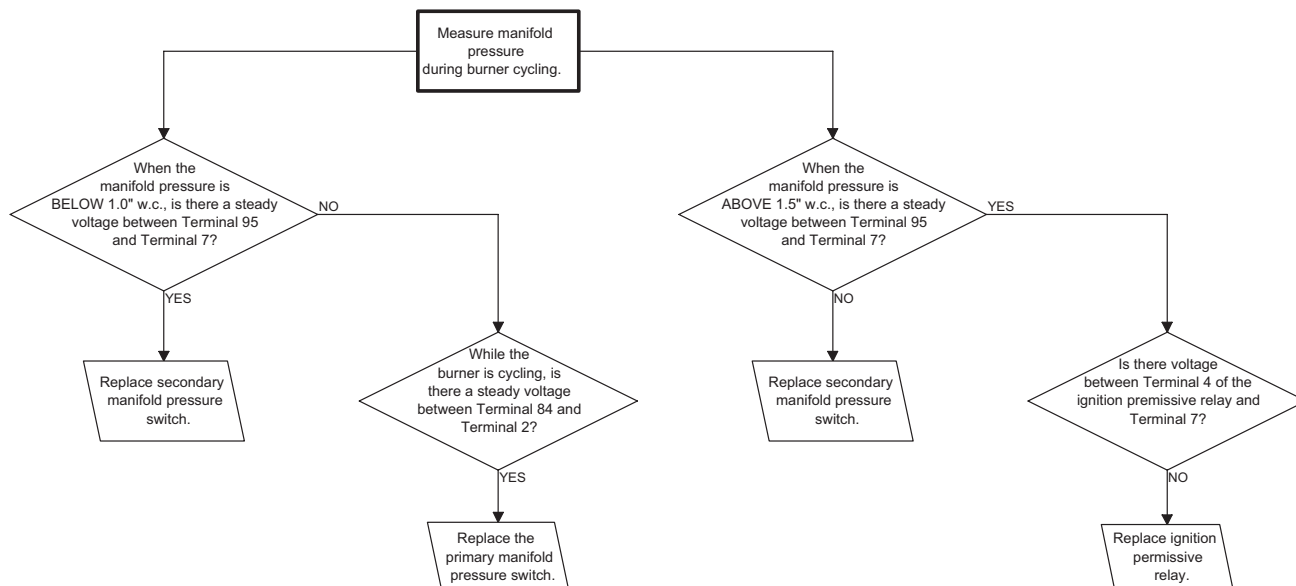

Figure 16. Troubleshooting Guide for Checking Bypass Combustion Air Damper Safety Circuit on Units with Option AG39, AG40, AG41, or AG42
- The gas supply (refer to pressure requirements in Table 17) connects to the single-stage gas valve. To compensate for additional pressure loss through the modulating valve, the single-stage gas valve has a custom outlet pressure setting higher than when it is used on a standard gas manifold. The pilot tubing connects to the pilot port on the single-stage gas valve. Refer to Figure 16 for troubleshooting options AG39 and AG41.
- Refer to Table 17 for options AG40 and AG41 pressure requirements and to Figure 16 for troubleshooting options AG40 and AG41.